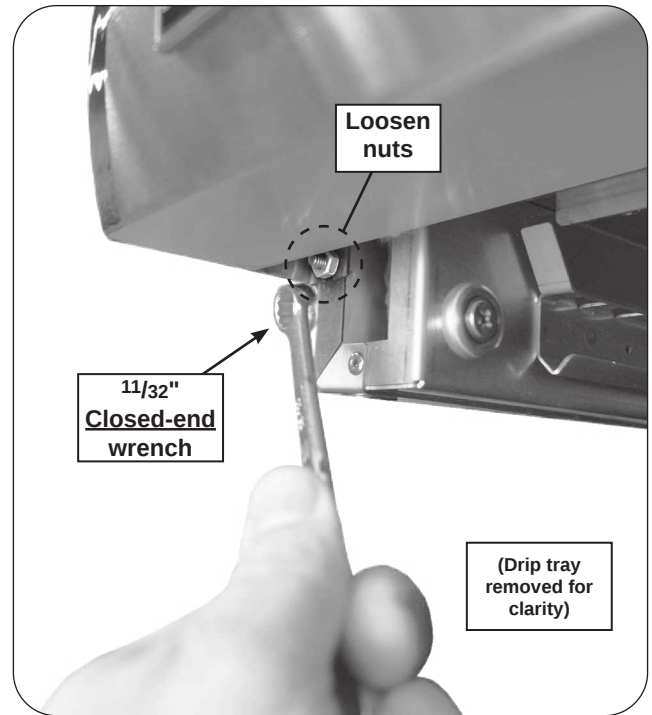

Fig. 41-1 Remove control panel
3. Loosen the nuts underneath the left and right sides of the control panel with a 11/32" wrench (see Fig. 41-1), then lift the panel until it is freed from the screws. Carefully rest the bottom of the control panel on the drip tray. The top of the control panel is supported by the internal chains.